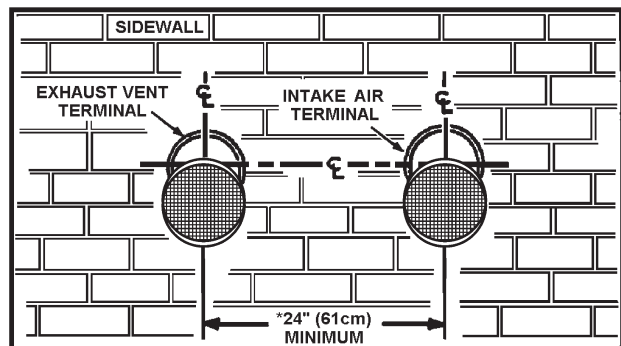

FIGURE 18C.
1. The intake air terminal and the exhaust vent terminal must terminate on the same exterior wall and must be separated by a minimum of 24" (61cm) on vertical centerline (see Figure 18C). In colder climates increasing the 24" (61cm) minimum will reduce possibility of frost over from side winds blowing exhaust vapors to the air intake of the direct vent.
2. The horizontal centerline of the intake air terminal may not be located lower than the horizontal centerline of the exhaust vent terminal (see Figure 18C).